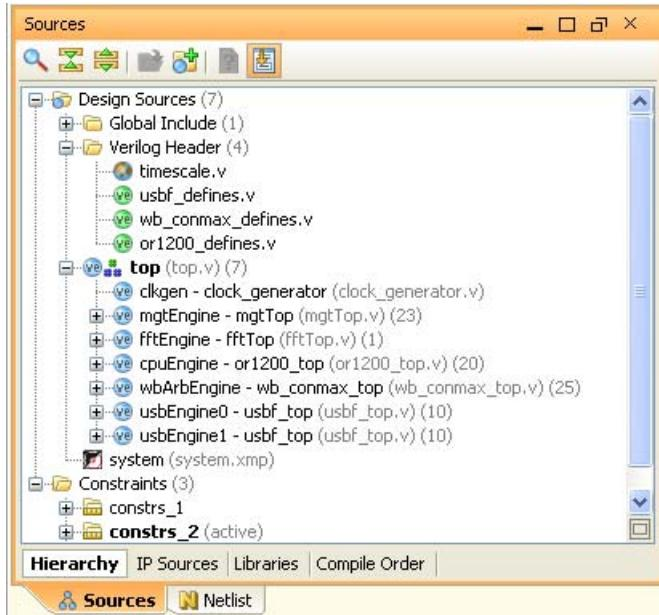

Figure 4-38: Sources View
Generally, the Sources view is open in the PlanAhead tool whenever a project is open. However, to open the Sources view select **Windows > Sources**. Figure 4-38 shows an example of the Sources view.
- The Hierarchy tab displays the hierarchical view of the design sources, starting with the top module. The top module defines the hierarchy of the design for compilation, synthesis and implementation. It is identified with a special icon in the Sources view as shown in Figure 4-38. The PlanAhead tool automatically detects the top module, but you can also manually define the top module using the **Set as Top** command (see Sources View Popup Menu, page 137).
The toolbar menu, as shown in Figure 4-38, page 135, contains the following commands: